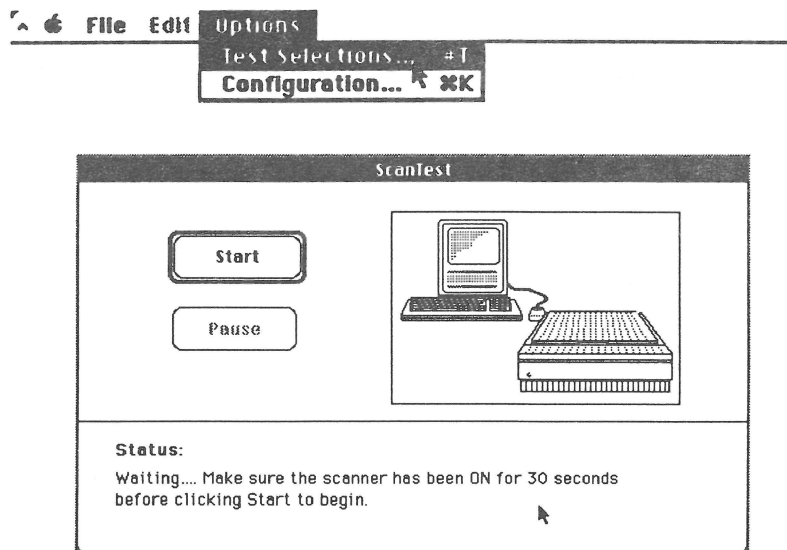

FIGURE 5
5. Pull down the Options menu and select **Test Selections** (see Figure 5), or hold down the <Command> key while typing **T**.